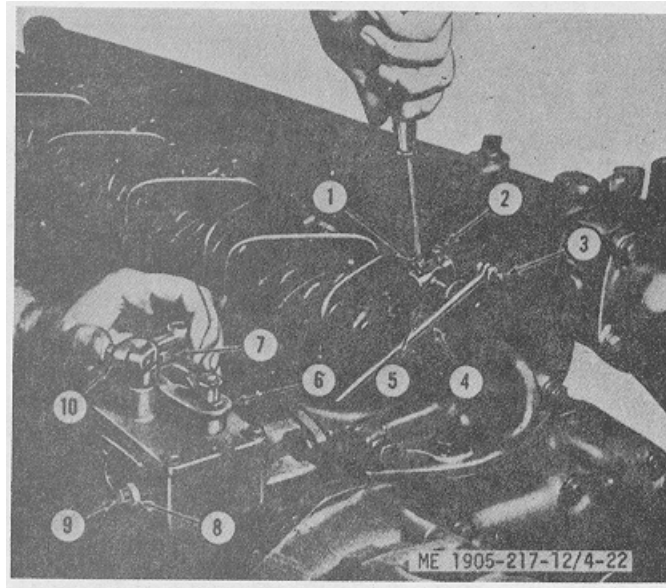

Figure 4-28. Pilot house engine control, hull number 8540 thru 8560 and 8580 thru 8618.
b. *Reverse Gear Control (fig. 4-28).* A single control lever is provided in the pilot house and in the engine room for reverse gear control of each propulsion unit. The reverse gear control is interlocked with the throttle control to prevent engagement or disengagement of the clutch except when propulsion unit is at idle rpm. Control of individual engine reverse gears is provided by a shutoff valve (18) for controlling the flow of oil to each engine. The valves are normally in a vertical (ON) position. The reverse gear control linkage is adjusted as follows (-engine stopped):
**If a shutoff valve is placed in an off position, lock it in that position to prevent vibration from moving it to a vertical (ON) position.**